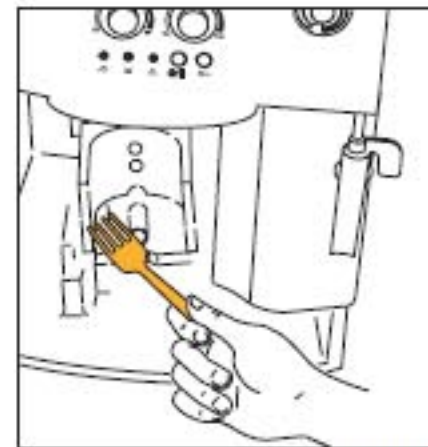

Fig. 3
- Turn the milk frother towards the outside of the machine (Fig. 3).
- Position a container underneath the milk frother (Fig. 3).
- Move the milk frother towards the outside (Fig. 3).
- place a container with a minimum capacity of 1.5 litres under the milk frother (Fig. 3);